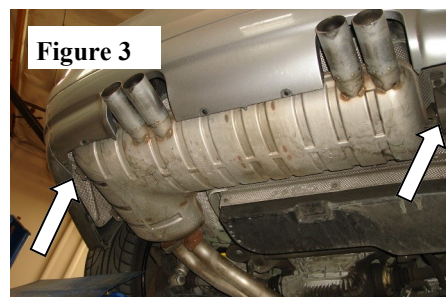

Figure 3
4. Use a muffler-stand to support muffler assembly. Remove (2) left-side and (2) right-side bolts from the muffler assembly brackets attached to the chassis. Carefully remove muffler assembly from vehicle. (See Fig. 3)